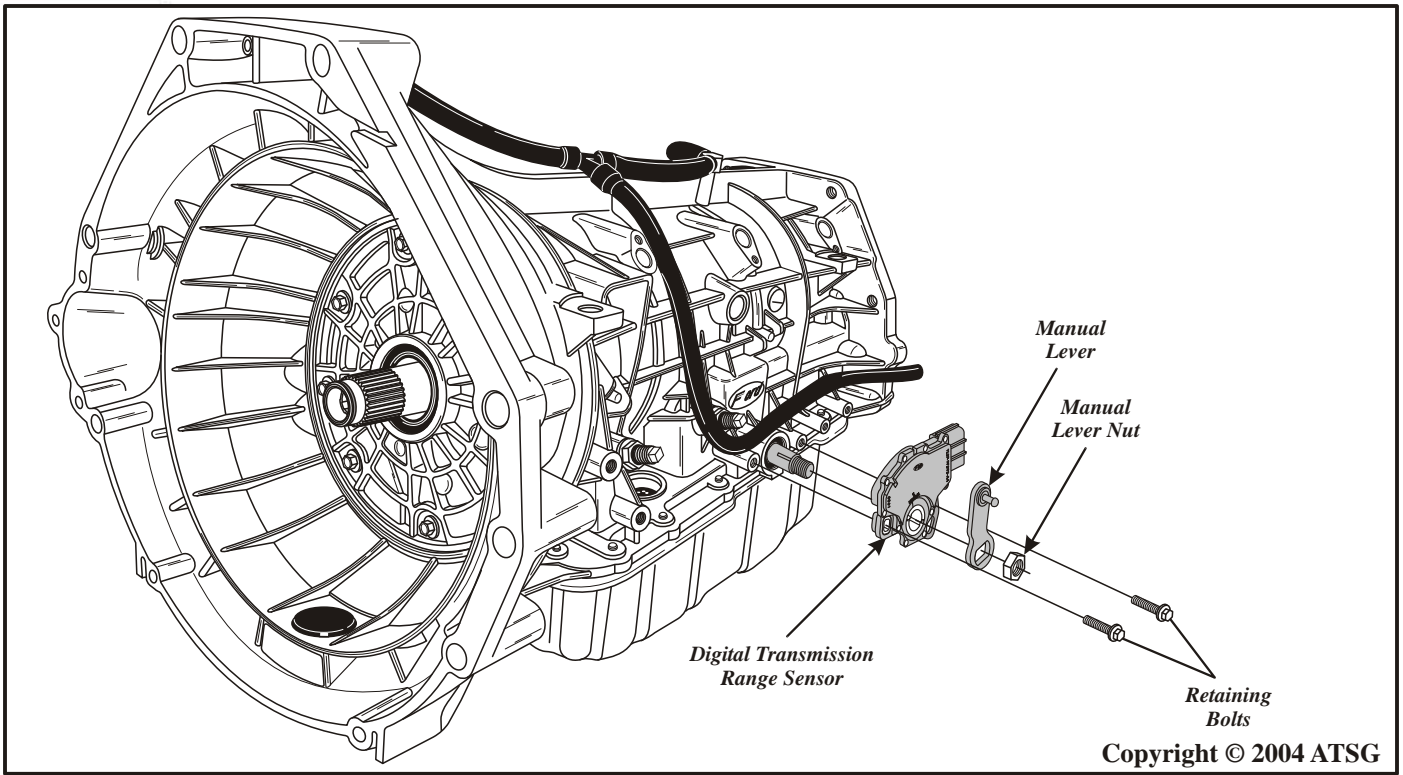

Figure 25
5. Remove the manual lever retaining nut and the manual lever, as shown in Figure 25.
6. Remove the two Digital Transmission Range sensor retaining bolts, as shown in Figure 25, and remove the sensor.